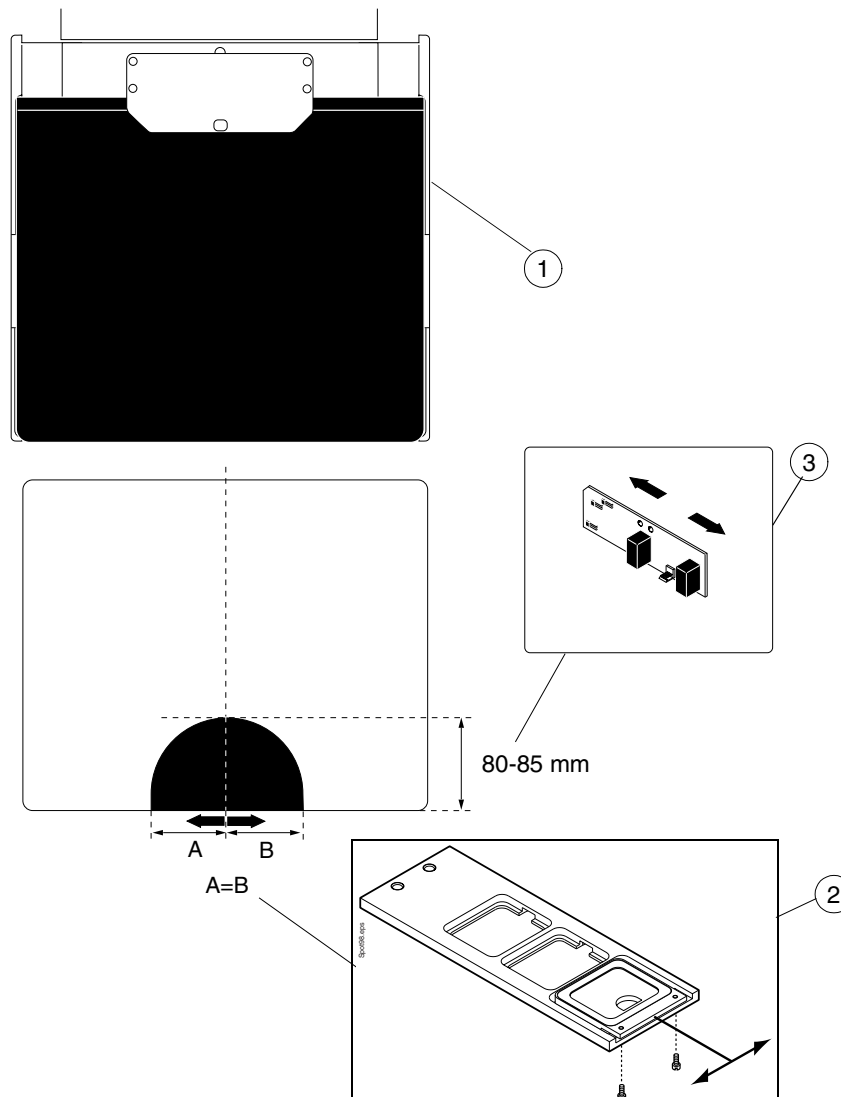

Figure F.7
- a) Place a loaded large cassette on a cassette table (Fig. F.7, 1).
- c) Check that the exposed area corresponds to the area in Fig. F.7.
- d) Loosen the spot collimator assembly screws and perform the side direction adjustment (Fig. F.7, 2).
- e) The back/front adjustment is performed by moving the COLLIMATOR PCB (Fig. F.7, 3). After adjustment make sure that the collimator worm-screw nut does not hit the collimator lower frame or stick to the beginning of the worm-screw. If needed, adjust the collimator limit sensors, see "Collimator mechanism limit sensors" on page F-44.